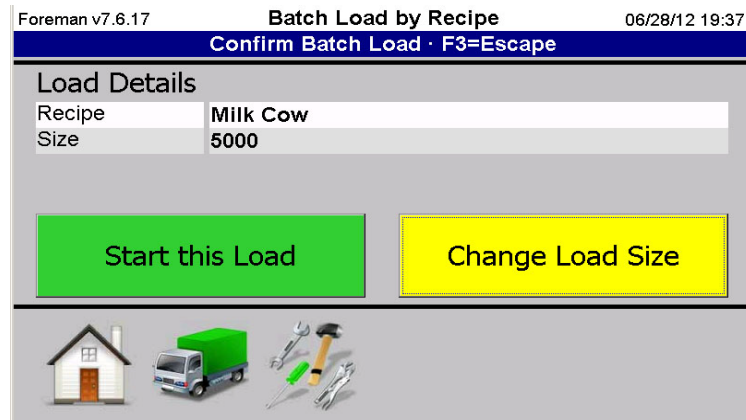

Figure 3.23 Confirm Batch Load Screen
3. The default load size is the max mixer capacity entered into the Feed Foreman PC program. Change the load size by pressing the  button. Refer to Figure 3.23.